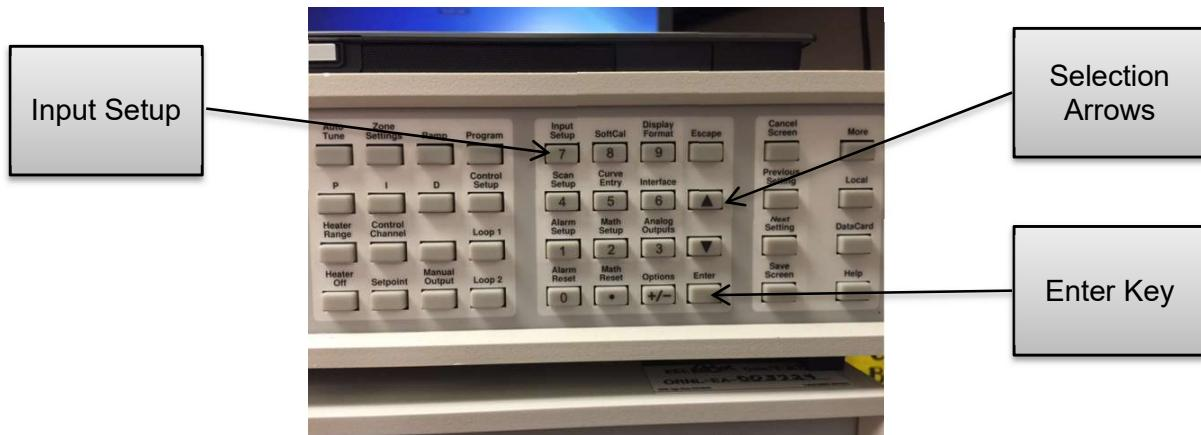
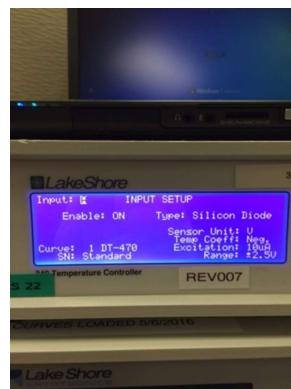

Figure 2
Figure 3
1.1 Press input setup (Figure 2).
1.2 Using selection arrows, select appropriate input (Figure 2) and (Figure 3).